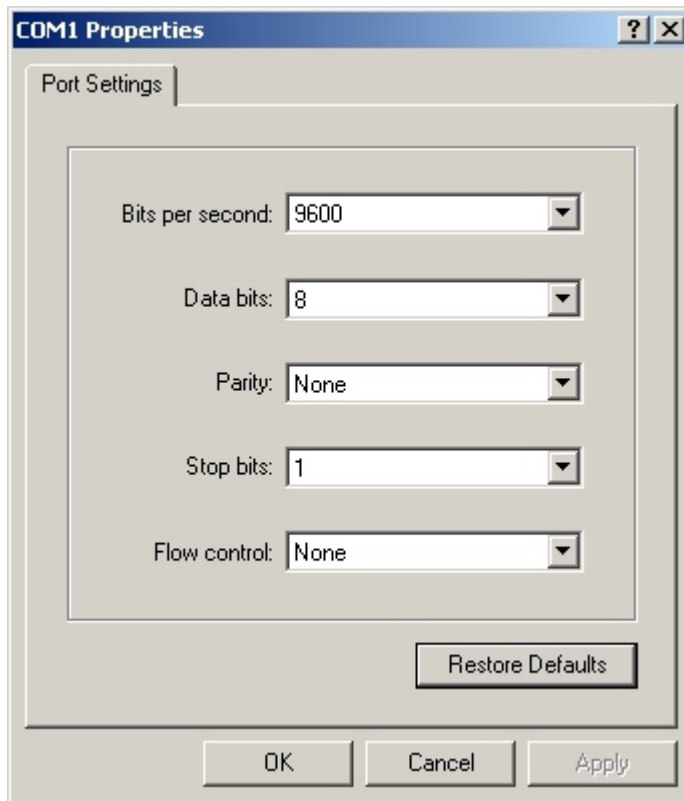

Figure 1-3.
5. The COM1 Properties window will appear (Figure 1-3). Set the fields as follows: Bits per second to 9600 and Flow control to None. Then press the OK button.